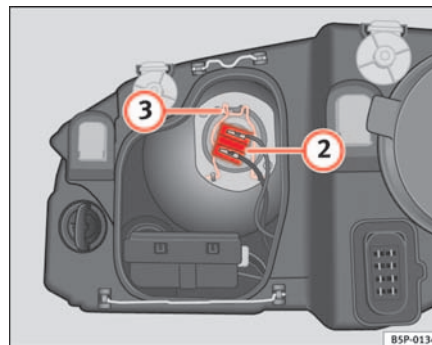

Fig. 176 Dipped head-lights
- Remove the connector ⇒ page 242, fig. 176 ② from the lamp.
- Disengage the retainer spring ⇒ page 242, fig. 176 ③ pressing inwards and to the right.